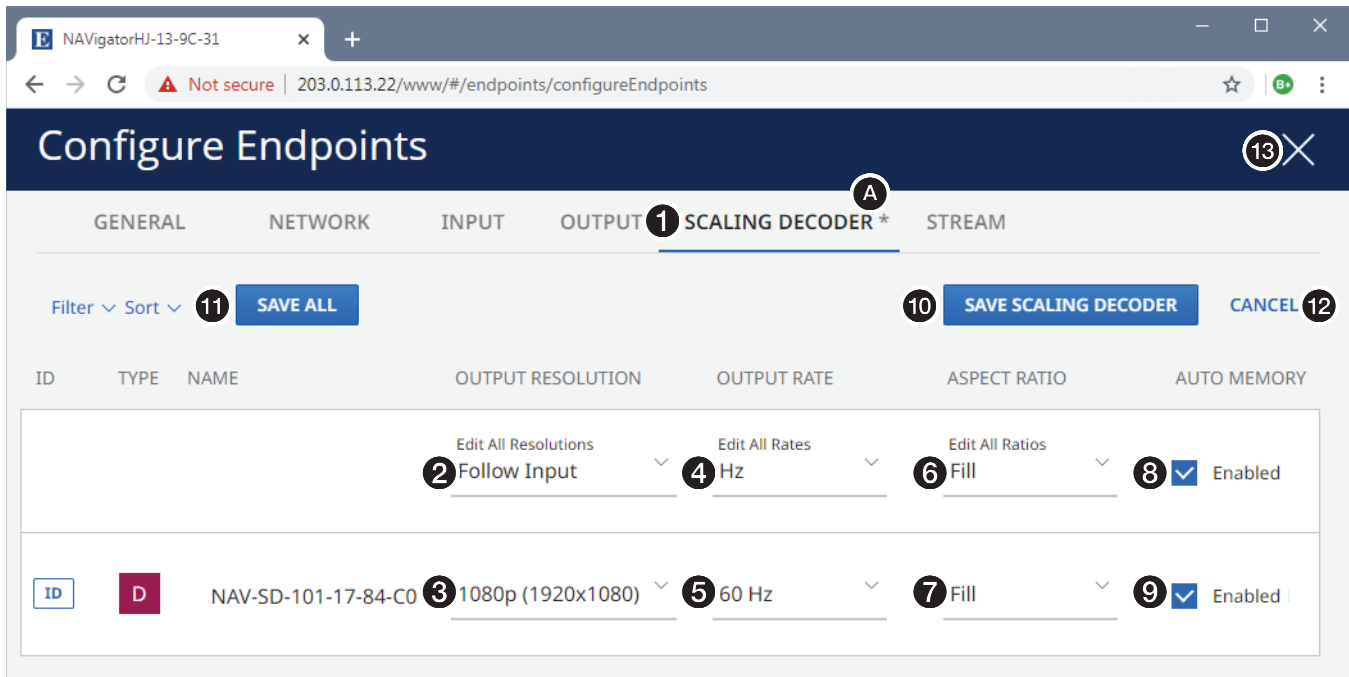

Figure 42. Endpoints Page, Configure Tools – Scaling Decoder Tab
1. Click the **Scaling Decoder** tab (see figure 42, ①).